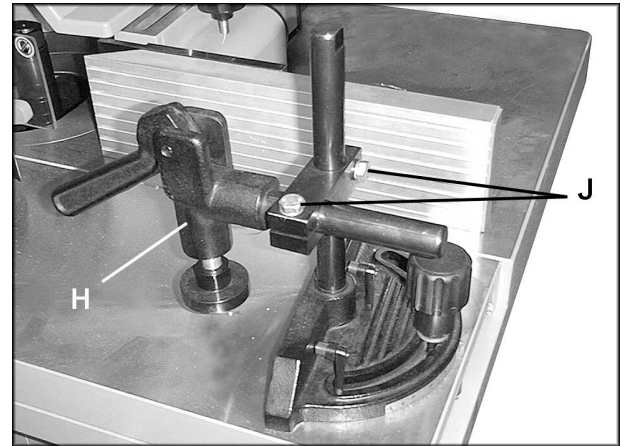

FIGURE 20
1. Insert post (A) of the clamp assembly down through hole (B) of the mitre gauge body (C), and thread post (A) into hole (D) of sliding table.
2. Insert shaft of locking handle (E) down through opening (F) of mitre gauge and thread shaft into hole (G) of sliding table.
3. The clamp (H), shown in Figure 20, is supplied with the mitre gauge to securely hold the workpiece when shaping small pieces across the grain. The clamp should be mounted as shown, and can be adjusted by loosening the screws (J).